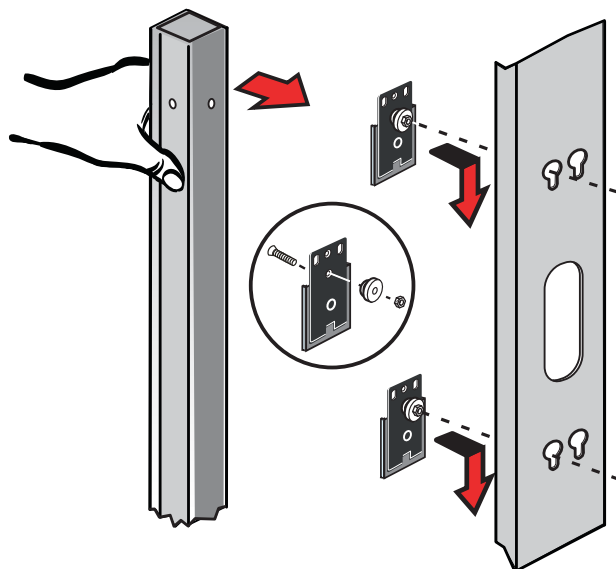

Figure 17. Attaching the Mounting Buttons to the Mounting Clip Feet
1. Locate the two mounting clip feet, M6 flathead screws, two spare plastic mounting buttons, and mounting hardware (M4 screws and M4 hex nuts). Using a Phillips screwdriver, assemble the mounting buttons and clip feet (see Figure 17).